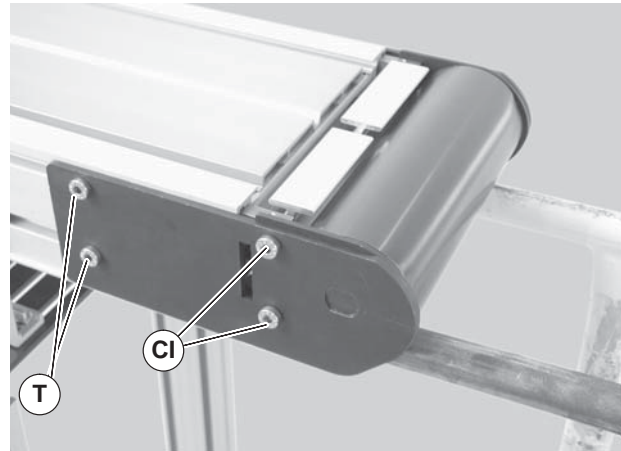

Figure 61
2. On one side of conveyor, loosen the two (2) back fastening screws (Figure 61, item T) and remove two (2) front fastening screws (CI).